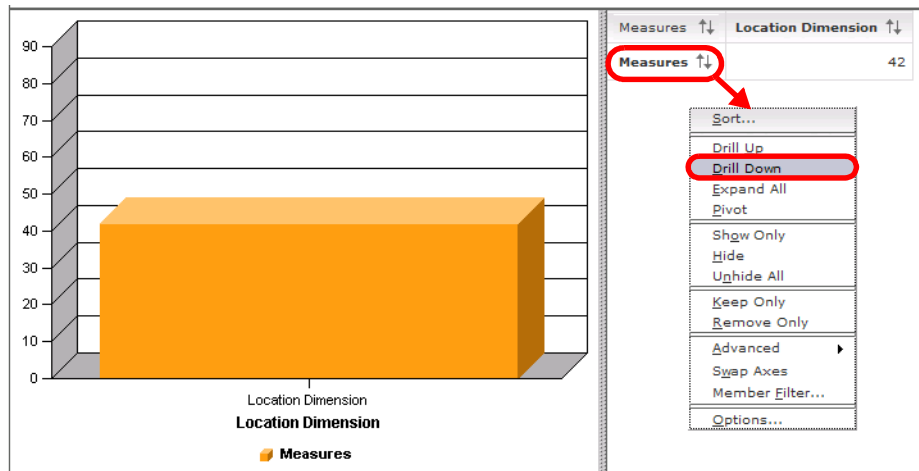

Figure 13-19 Configuring dimensions: Drill-down of measures
- We drill down the measures by double-clicking *Measures* on the (left or right side) or by selecting *Measures* → *Drill-Down* (Figure 13-19).